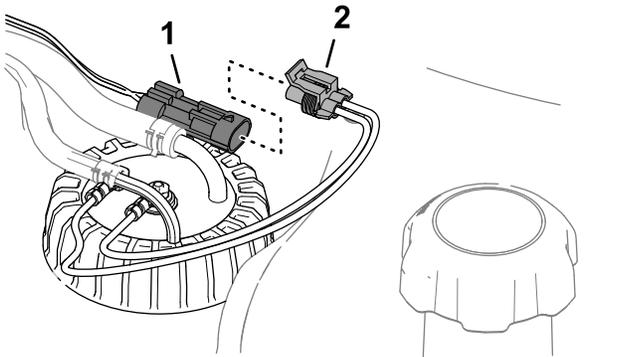

Figure 95
- 6. Plug the connector of the fuel-sender harness into the connector of the machine wire harness (Figure 95).